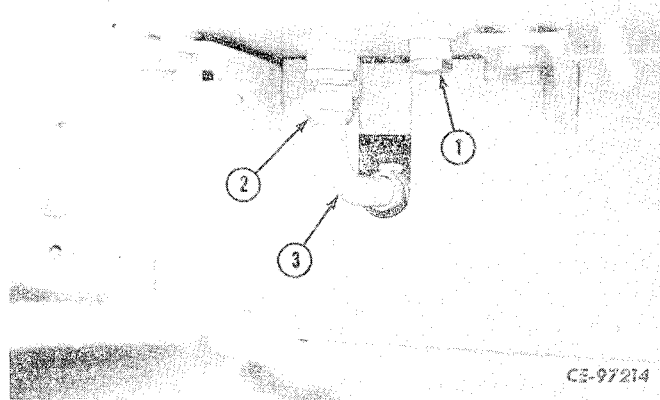

Figure 2-12
Open drain plug (1, Fig. 2-12) and drain hydraulic reservoir. Disconnect hydraulic hose (3) from reservoir and wire to side of engine.
Connect hydraulic hose (3, Fig. 2-12) to reservoir and tighten end of hose (2). Tighten drain plug (1).